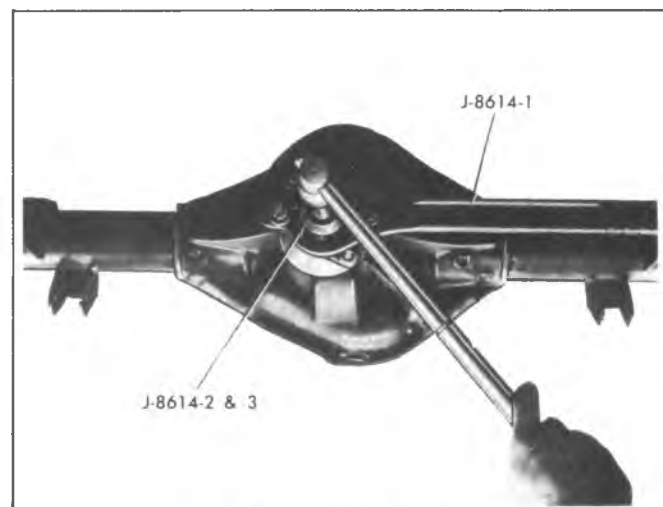

Fig. 17F-Removing Pinion Flange
3. Install Tool J-8614-2, and 3 into holding bar as shown in figure 17F and remove flange from drive pinion. Remove drive pinion from carrier.